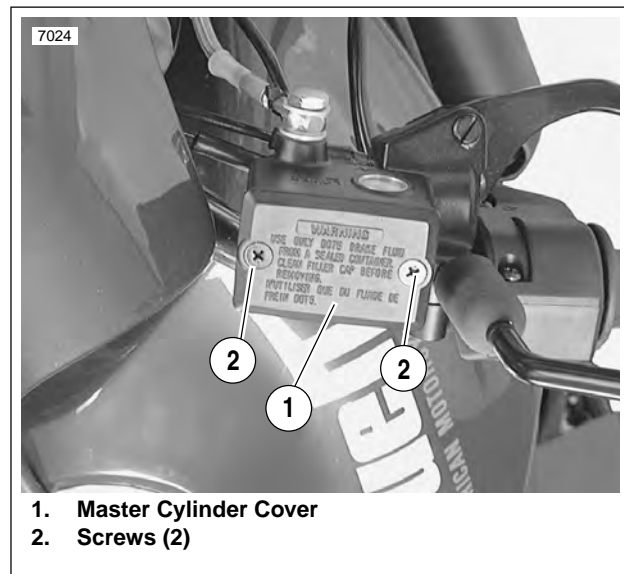

Figure 2-40. Master Cylinder Cover
6. See Figure 2-40. Remove both master cylinder cover screws (2). Remove master cylinder cover (1) and gasket.